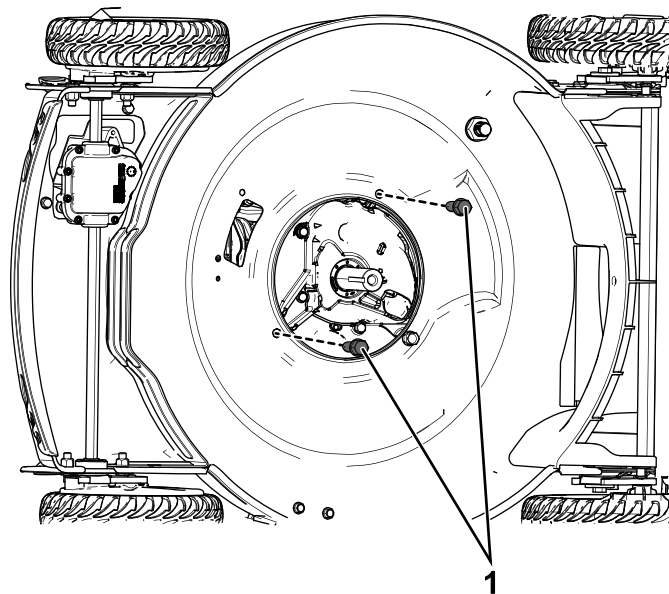

Figure 7
1. Install the 2 engine-mount bolts (3/8 x 1 inch) and torque them to 400 in-lb (Figure 7).